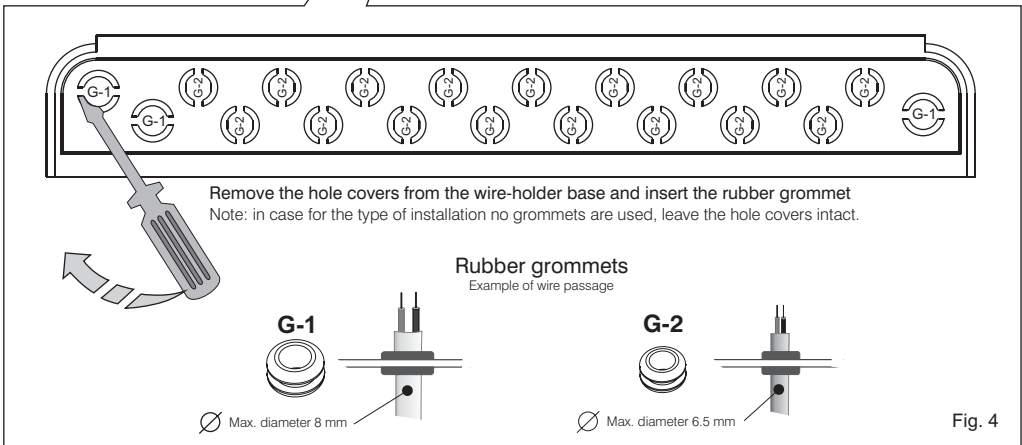

Fig. 4
- Remove the wire-holder base **B** and remove the plastic hole covers with the help of a suitable tool (fig. 4)